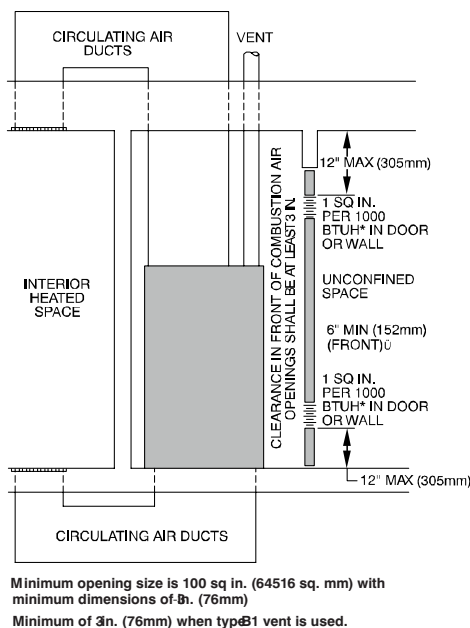

Fig. 7 – Air for Combustion, Ventilation, and Dilution from Indoors
- Combining spaces on same floor level. Each opening shall have free area of at least 1 in.²/1,000 BTUh (2,000 mm²/kW) of the total input rating of all gas appliances in the space, but not less than 100 in.² (0.06 m²). One opening shall commence within 12 in. (300 mm) of the ceiling and the second opening shall commence within 12 in. (300 mm) of the floor. The minimum dimension of air openings shall be at least 3 in. (80 mm). See Fig. 7.